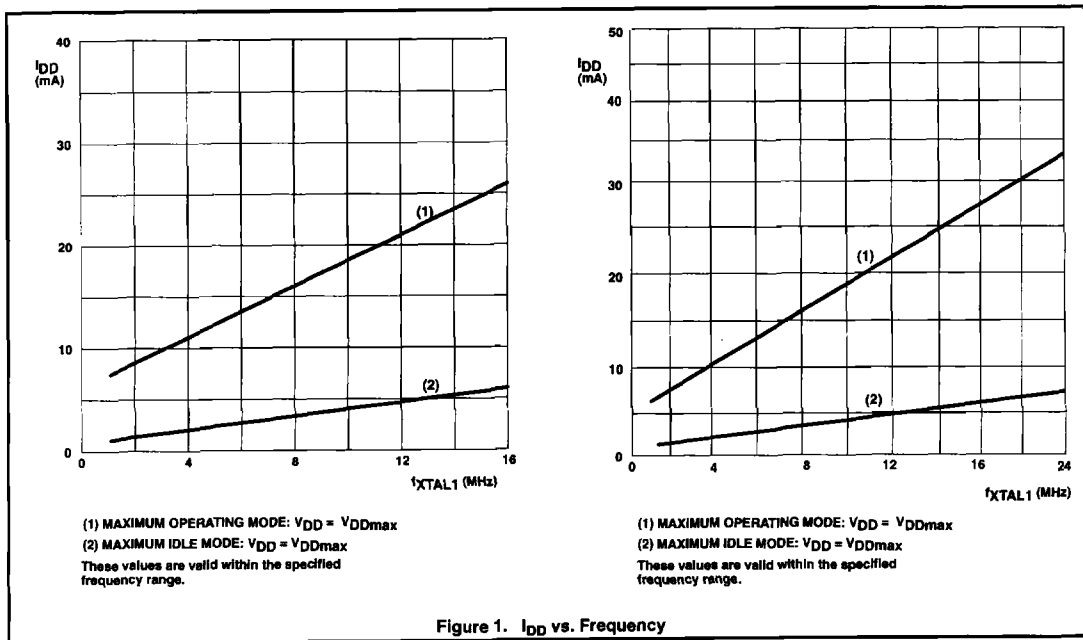

Figure 1. I_{DD} vs. Frequency
11. $I_{DD\text{MAX}}$ for other frequencies can be derived from Figure 1, where FREQ is the external oscillator frequency in MHz. $I_{DD\text{MAX}}$ is given in mA.